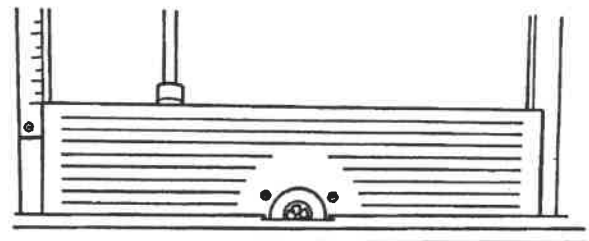
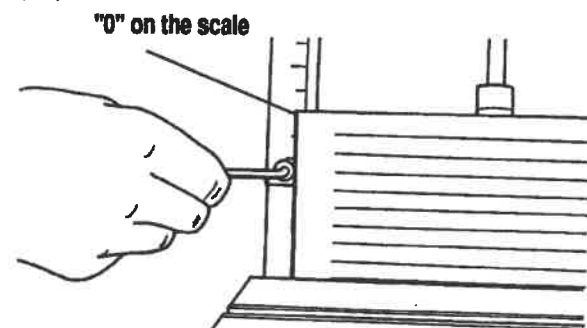

Fig. B-12
Fig. B-13
14. With the bit centered to the work surface (shown in Fig. B-12), use a 5/32" Allen wrench to loosen the two button head cap screws (10) holding the scale (9) on the left guide bar (6). See Fig. B-13.
16. Tighten the two button head cap screws (10) holding the scale in place. See Fig. B-13.